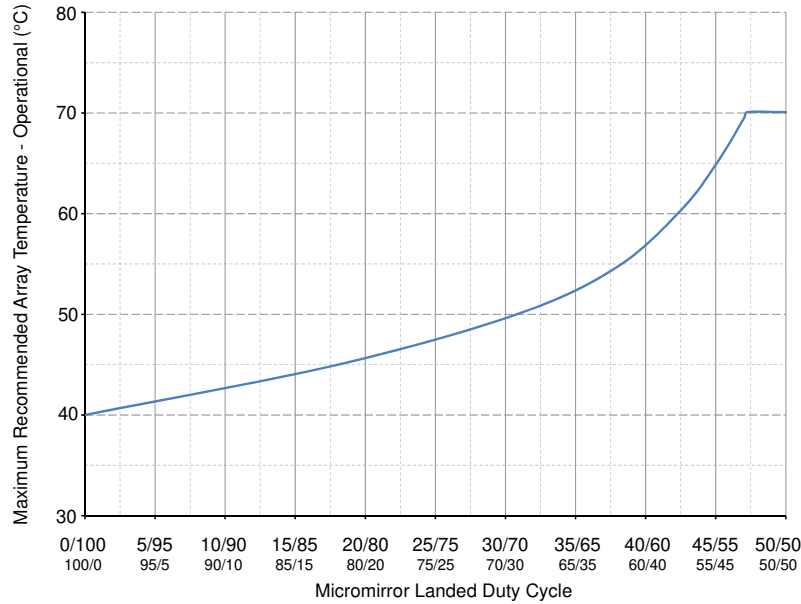
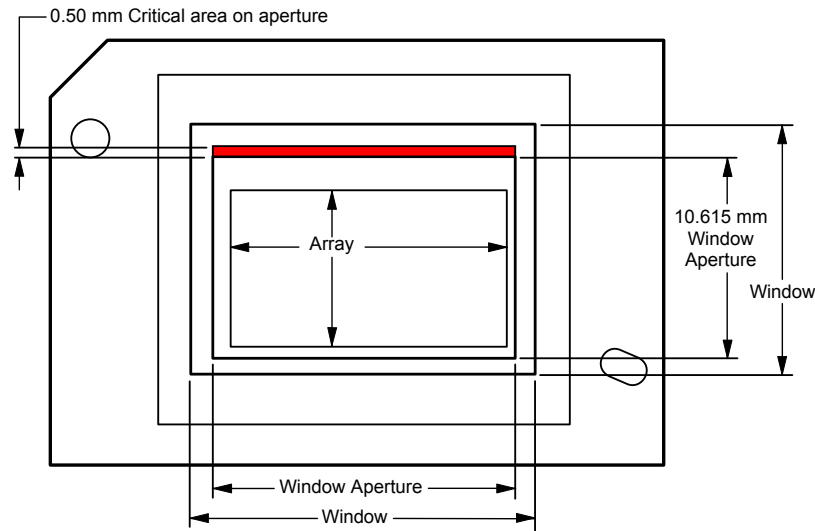

图 6-1. Maximum Recommended Array Temperature - Derating Curve
图 6-2. Illumination Overfill Diagram - Critical Area
- (12) Per Figure 6-1, the maximum operational array temperature should be de-rated based on the micromirror landed duty cycle that the DMD experiences in the end application. Refer to Micromirror Landed Duty Cycle for a definition of micromirror landed duty cycle.
- (13) Long-term is defined as the usable life of the device.
- (14) Short-term is the total cumulative time over the useful life of the device.
- (15) The average over time (including storage and operating) that the device is not in the elevated dew point temperature range.
- (16) Exposure to dew point temperatures in the elevated range during storage and operation should be limited to less than a total cumulative time of CT_{ELR}.
- (17) The active area of the DMD is surrounded by an aperture on the inside of the DMD window surface that masks structures of the DMD device assembly from normal view. The aperture is sized to anticipate several optical conditions. Overfill light illuminating the area outside the active array can scatter and create adverse effects to the performance of an end application using the DMD. The illumination optical system should be designed to minimize light flux incident outside the active array. Depending on the particular system's optical architecture and assembly tolerances, the amount of overfill light on the outside of the active array may cause system performance degradation.
- (18) Applies to the region in red in Figure 6-2.